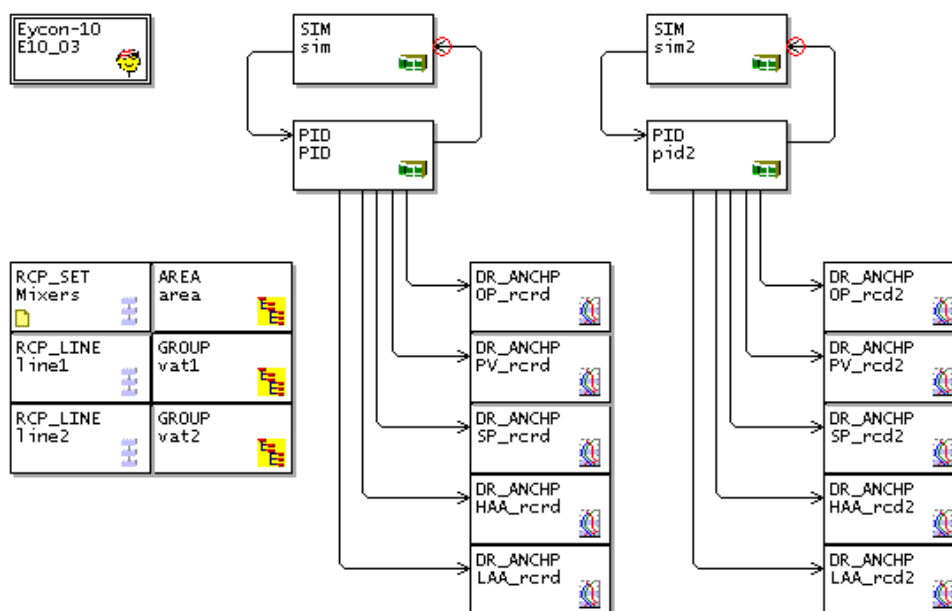

Figure 5-5 The modified two-line (simulation) strategy
Figure 5-5 shows the modified (simulated) strategy, with a second set of control loop blocks added. Also added are a RCP_LINE block and a GROUP block. To avoid unnecessary clutter, the data logging blocks and the AI_UIO and AO_UIO blocks are not shown in the figure. You can delete them from the strategy if you wish, as they are not needed for this section of the tutorial.
- 4 Select the set of blocks linked to the PID block, i.e. the SIM, PID, and the five DR_ANCHP blocks, e.g. drag a dotted box around the blocks. Copy (Ctrl+C) and paste (Ctrl+V) the selection, then move the superimposed copy, while still selected, to the right of the original blocks, as in Figure 5-5.
- 5 Select the RCP_LINE and GROUP blocks, then copy, paste, and position the copies just below the existing pair of blocks. Rename the two GROUP blocks with more sensible names, 'vat1' and 'vat2', as in Figure 5-5.
Note *(Block type) blockname.field.subfield format, referring to Figure 5-5.